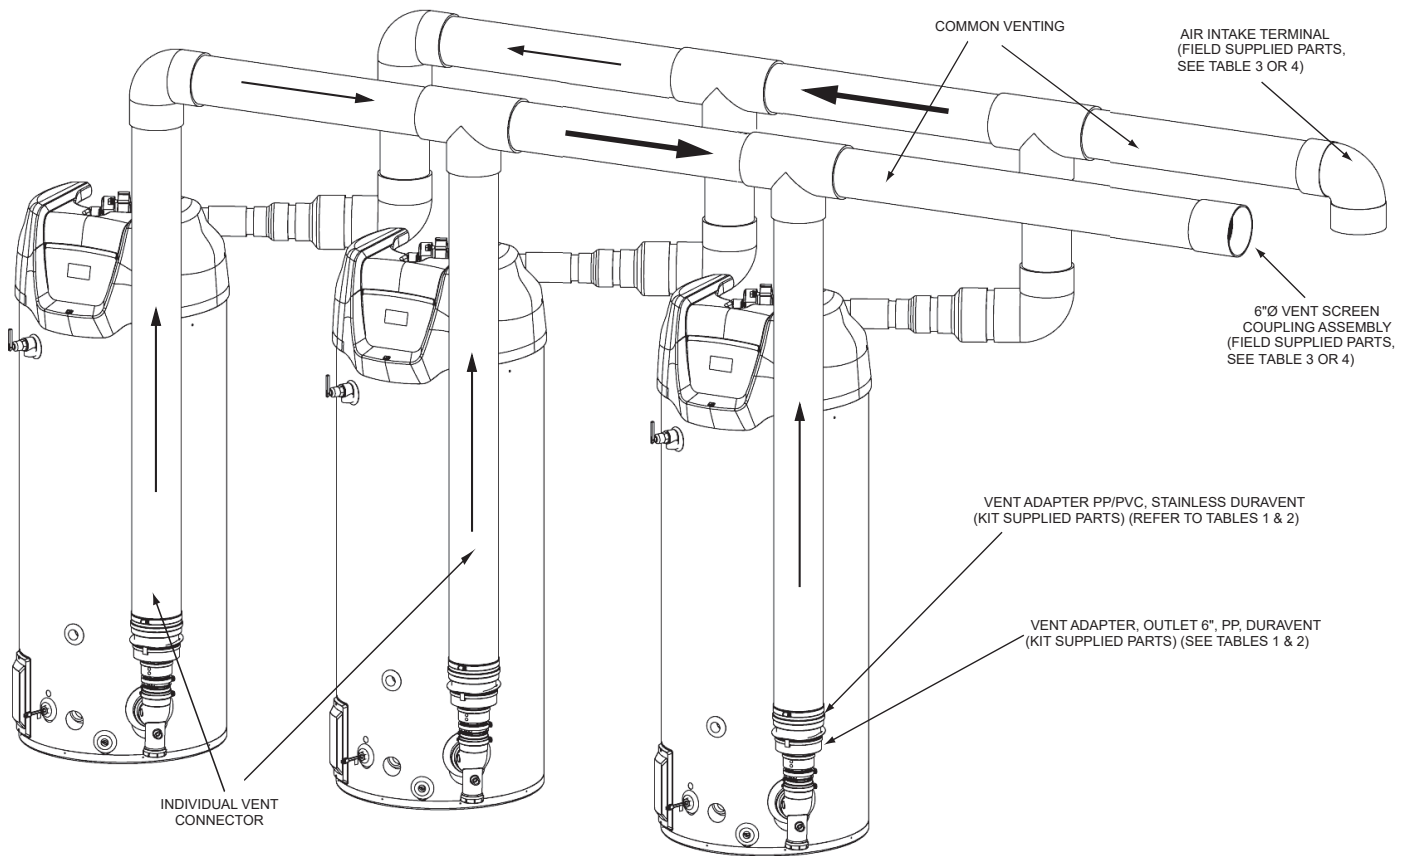
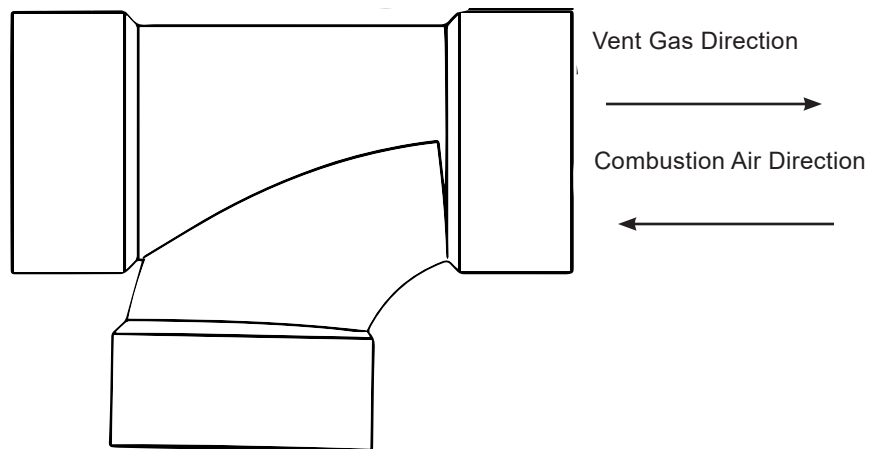

Figure 4. Definition of System Sections - PVC
Figure 5. Sanitary TEE
- No change to the system layout, as shown in *Figure 4* (page 7), except as explained in these instructions.
The common vent is the section of the vent and air inlet piping where the gases from all of the heaters flow together, See *Figure 4*. The maximum equivalent length straight pipe and elbows of the common sections is 50 feet. The minimum equivalent length of the common sections is 3 feet. Each 90° elbow is equal to 5 feet and a 45° elbow is equal to 2½ feet. The maximum number of elbows is three. The air intake terminal (90° elbow) is not included in the equivalent length.
Figure 4 shows the system constructed with straight tees. However, you can also use sanitary tees, shown in **Figure 5**, as an acceptable substitute, provided they are arranged so that the flows are in the directions indicated in **Figure 5**.
The individual vent connectors attach the heaters to the common vent. The exhaust vent connectors are attached to the water heater with the parts in the kit. The air inlet connectors are attached with PVC reducing fittings to the heater's PVC coupling. As shown in **Figure 4**, the individual vent connectors consist of vertical and horizontal sections that connect the heater outlets to the common vent. Using different lengths of pipes, the height of the horizontal sections may be adjusted to be from 80" to 110" from the bottom of the heater to the center-line of the horizontal section. The combustion air and exhaust vent sides of the system may be different heights, but each must meet the 80" to 110" height requirement.
The common sections are the pipes that carry the vent gas or intake air to and from the outside. Each pipe must extend from the tee over the heaters to the outside/ outdoors etc. It is preferred to run the air and vent sections next to each other, over a similar path as shown in *Figure 4* (page 7). However, differences may be needed in the field. The requirements for both the air intake and vent common sections are: